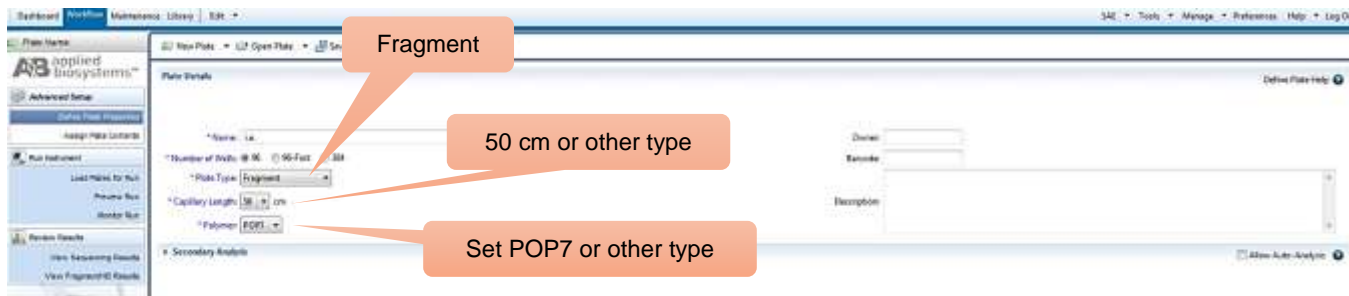

Figure 12- Screenshot for the “Defining plate properties” window on Applied Biosystems 3500 Data Collection software.
3. Select “*Create*” (Figure 12)